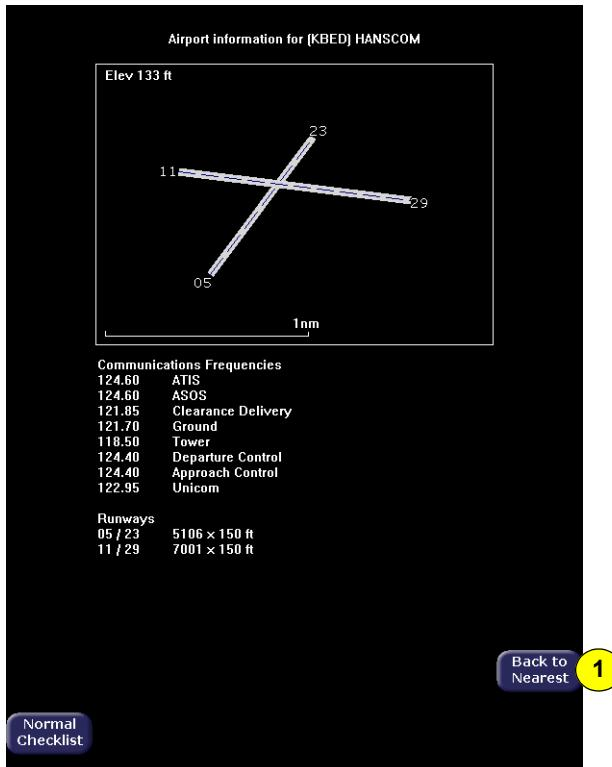

Figure 6.2 Airport Information Page
- 3) **Airport Info**—Provides quick access to airport information for the airport highlighted. *Airport Info* only appears when viewing the Airports Nearest to Position and Airports Nearest to Destination. *Airport Info* displays a page similar to Figure 6.2.